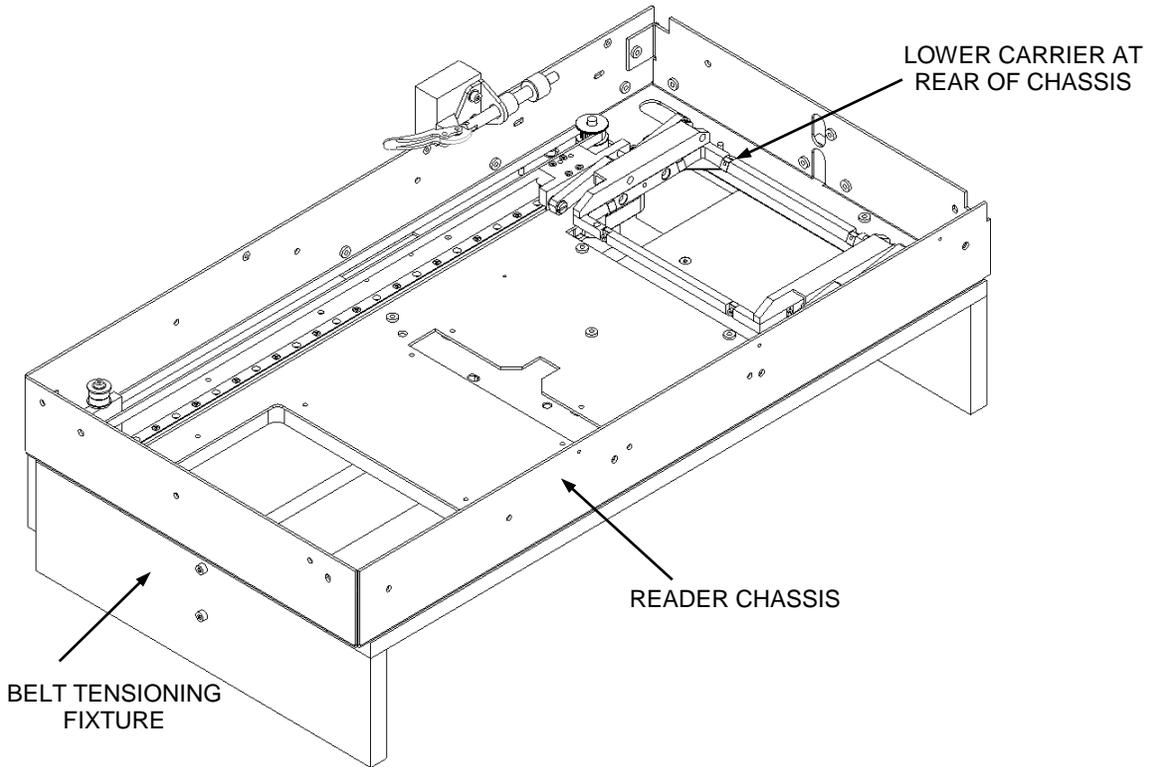

Figure 12-57: Sliding Lower Carrier Assembly
4. Slide the Lower Carrier assembly right to the rear of the Chassis (Figure 12-57).